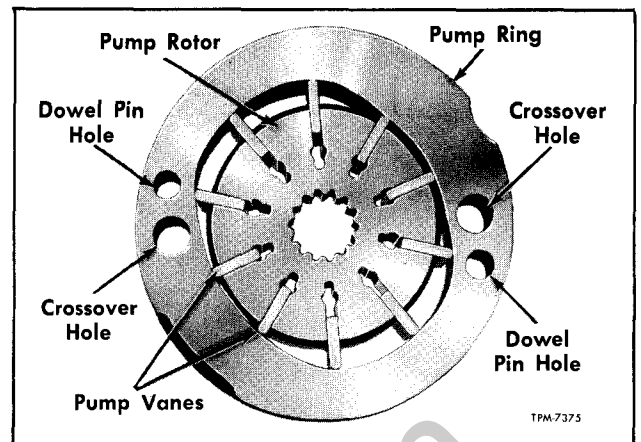

Figure 7—Cross Section of Rotor and Vanes in Pump Body
NOTE: Refer to figures 7 and 8.
As the drive shaft rotates the rotor, the vanes follow the cam surface in the pump ring. This cam consists of two rising and falling areas which cause a complete pumping cycle to occur every 180 degrees of rotation (fig. 7).
The spaces between rotor vanes pick up oil on the rising portions of the cam from two openings between thrust plate and pump ring and from openings between the pressure plate and pump ring. This oil is discharged on the falling portion of the cam through two openings in the pressure plate and two openings in the thrust plate which are connected to openings in the pressure plate by crossover holes in the pump ring (fig. 7). The oil passes through the pressure plate into cavity (1) behind it. A portion of this oil is directed back through other passages in the pressure plate so that it may enter behind the vanes forcing them to follow the cam surface of the pump ring (fig. 8, View B).